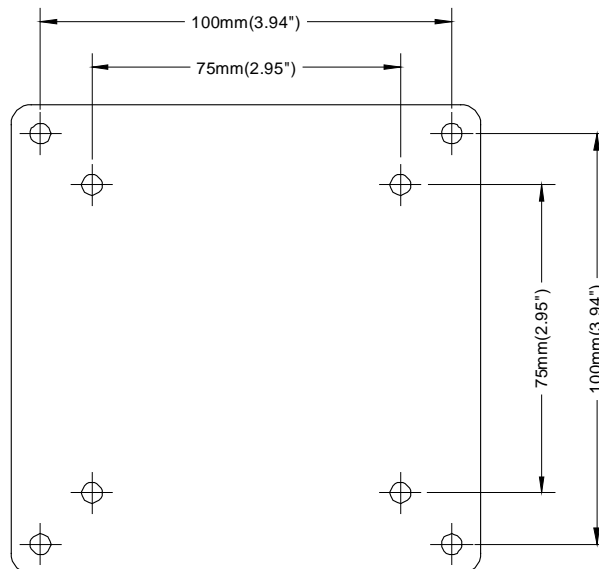

Figure 2-1: Touchscreen base back plate showing VESA mounting holes
3. Note the two sets of VESA (Video Equipment Standards Association) mounting holes on the back plate and on the touchscreen console. One set of holes is spaced at 100 mm, and the other set is spaced at 75 mm. CPI recommends the use of the 100 mm spaced VESA holes. Line up the back plate with the touchscreen (observe orientation). Attach the base using the screws provided. See figure 2-1.